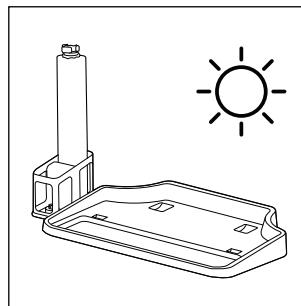

Fig. 38
- ◆ You can also place the rotary brush **6** upright in the rotary brush holder **5** on the parking and cleaning station for drying (see Figure 38).